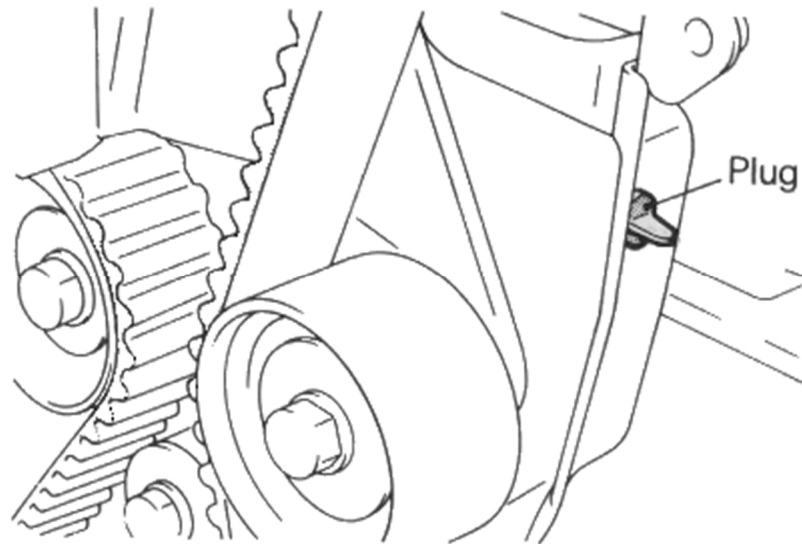

Figure 3
12. Remove rubber plug from inner timing belt cover and screw special tool no. MD998738 into the engine left support bracket until it makes contact with the tensioner arm (Figures 3 & 4).